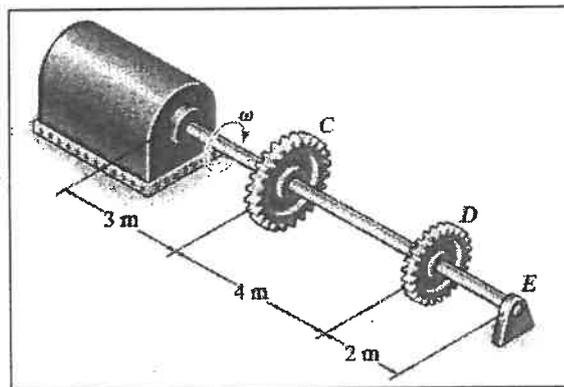

Figure 7
- (a) Figure 7 shows a turbine developing 150 kW of power and transmitted to the gears with C and D receives 70% and 30%, respectively. The journal bearing at E allows the shaft to turn freely about its axis. If the rotation of the 100 mm diameter A-36 steel shaft is $\omega = 800$ rev/min, calculate;